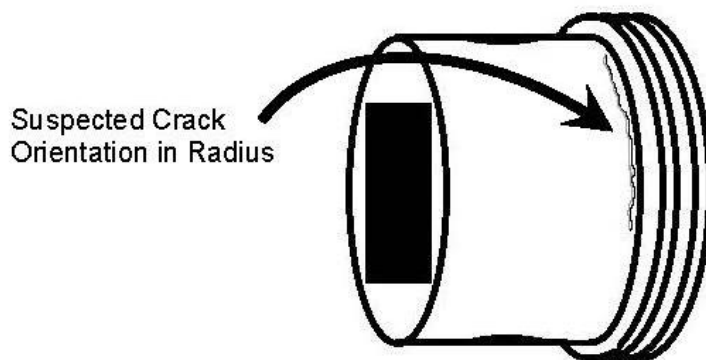

Figure 1
- 1.0 Description (Figure 1). The MR Inboard Strap Fitting is a machined cylindrical part located in the yoke assembly. It positions the pin which attaches the retention strap.
- 2.0 Defects. Defects are suspected in the radius area shown below in Figure 1. No cracks are allowed.